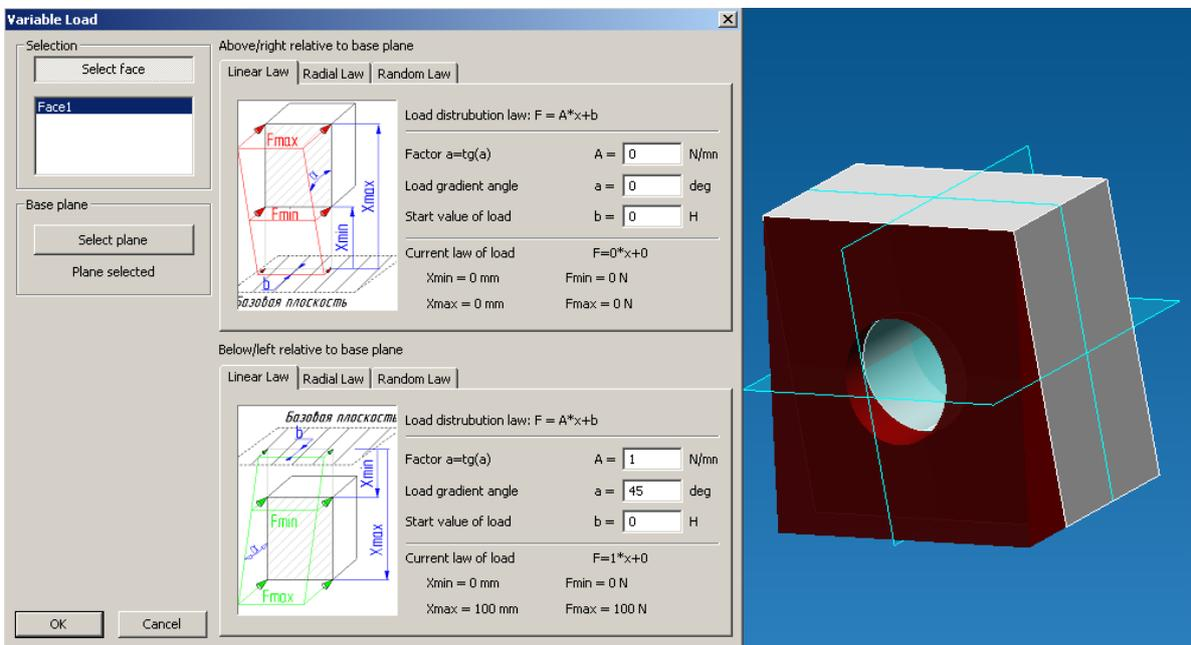

Fig. 2.9.19 Face selection and linear law
The next step is to set the faces, to which a distributed load will be applied. After you select a base plane the system goes automatically into the Face Select Mode (the **Select Face** button is depressed) (Fig. 2.9.19).
*Linear Law* (fig. 2.9.19) corresponds to the equation of line  $y = Ax + b$  [N] where  $A = \text{tg}(a)$  is the *tangent of inclination angle*,  $a$  - *inclination angle*,  $b$  is the *start value of load* on the base plane level.